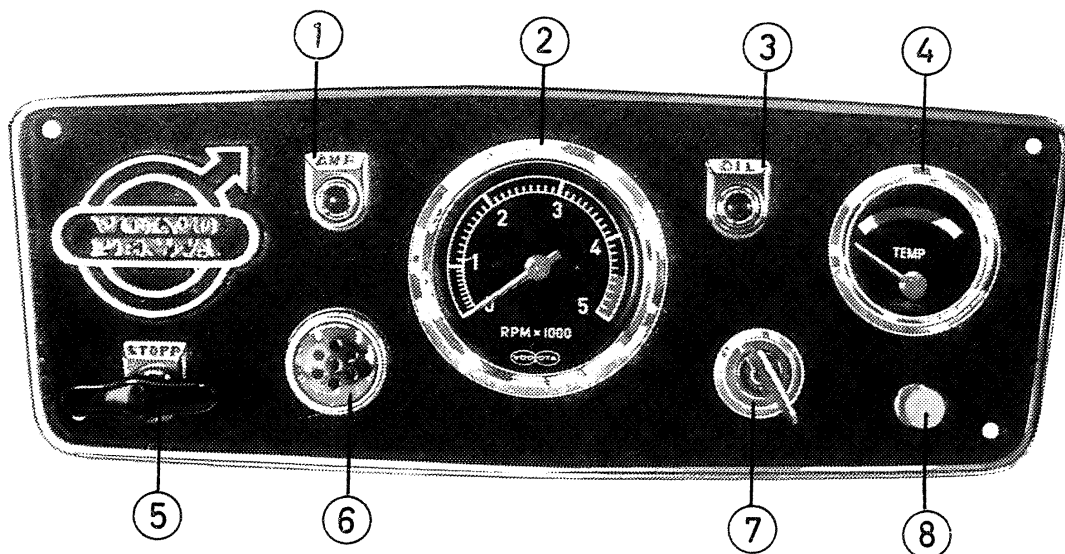
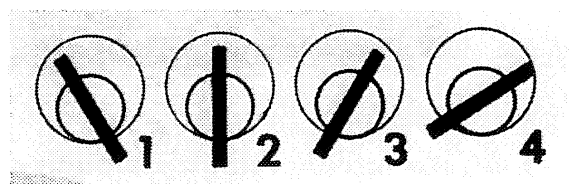

Fig. 3. Instrument panel (See explanation of figures on next page)
Fig. 4. Key switch
(The figures refer to Fig. 3)
4. Starting position. When the control resistance (6, Fig. 3) starts to glow, the key is pushed inwards and turned to position (4, Fig. 4), at which the starter motor is engaged. As soon as the engine has started, release the key which then automatically returns to the running position.
⑧ Switch for instrument lighting
3. Turn the starting key to position 2, running position, see Fig. 4. Check that the charging control lamp and oil pressure warning lamp light up.
4. Turn the starting key to position 3 and keep it in this position until the control resistance (6, Fig. 3) glows. The time required for preheating varies with the engine temperature but is normally 40–60 seconds. When starting a warm engine, no preheating is required.